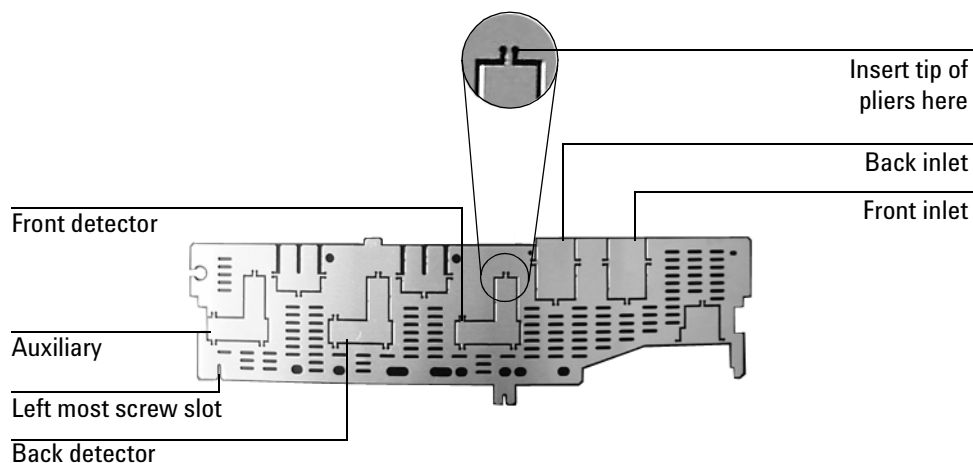

Figure 3. Top rear panel cutouts
6. Using a pair of needle-nosed pliers, remove the appropriate top rear panel detector cutout for the TCD. Also remove any cutouts needed to access other manifolds or accessories installed in the GC. See Figure 3.